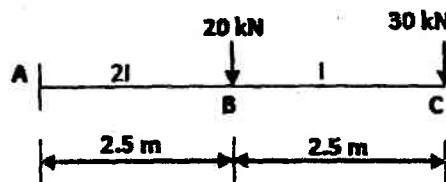

Figure 2
13. (a) Find slope and deflection at point C for the beam shown in Figure 2 using Castigliano's beam method. Take  $EI = 20000 \text{ kN-m}^2$ .